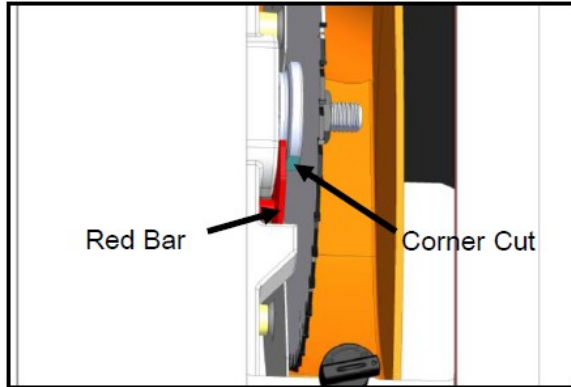

Figure 21
3.) Find a corner notch/cut on the arbor and push the red bar into the corner of the cut as close to the saw blade to stop the arbor and use the arbor wrench to loosen the and remove the arbor nut, flange, and blade. See Figure 21 below.